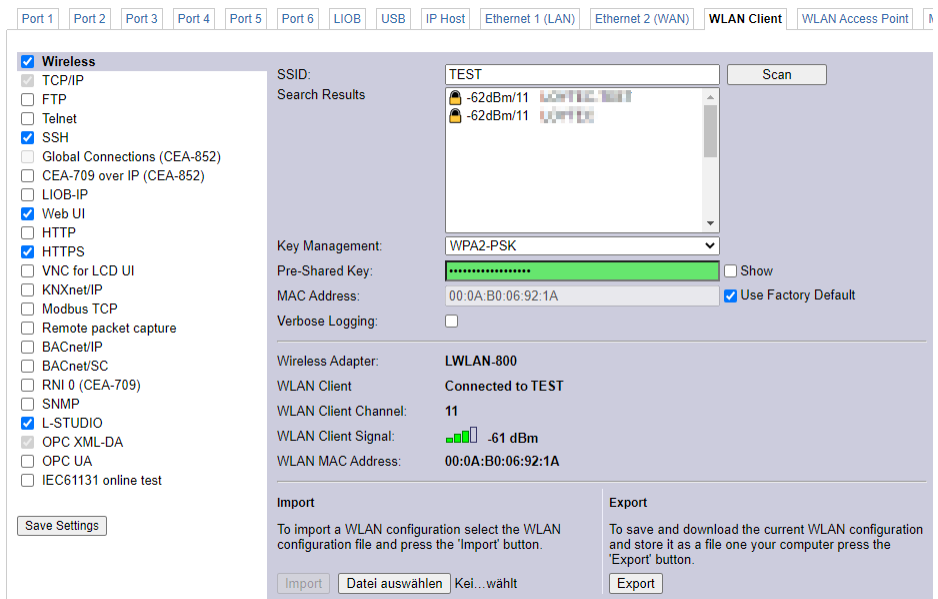

Figure 54: WLAN Client Settings
**WLAN Client** tab: This tab allows configuring the WLAN interface in client mode. In this mode the WLAN client connects to an existing access point. A wireless interface in client mode has the settings shown in Figure 54.